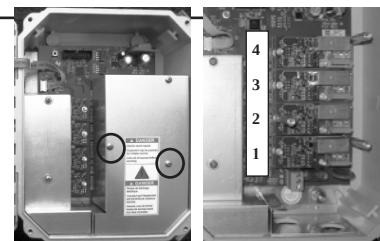

Figure 1 - Output Module positions
- c. Remove and retain the three screws on the Facilities Section. Remove the metal cover (see **Figure 1**).